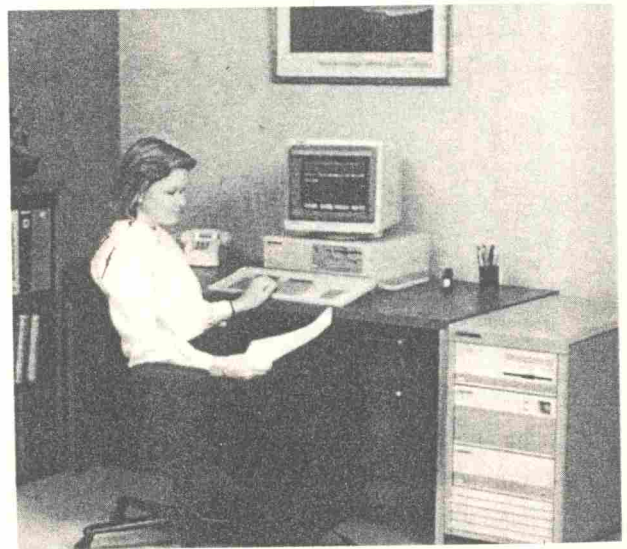

FIGURE 75-3 The minicomputer is generally a dedicated type and performs specific tasks. (Courtesy Hewlett-Packard Company.)
- The *minicomputer* (Fig. 75-3) is generally smaller in size and capacity than the mainframe computer. This type of computer is generally a "dedicated" type, which means that it performs specific tasks.